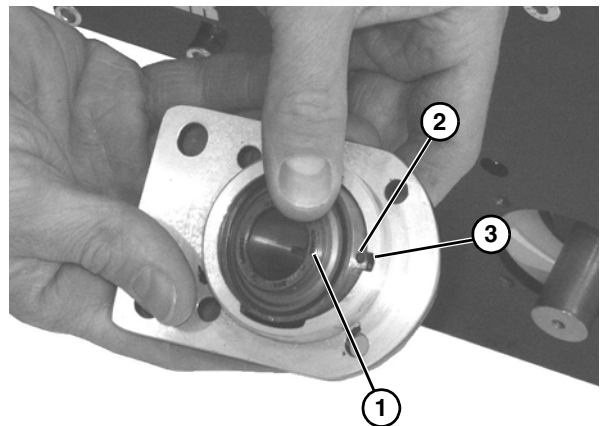

Figure 64
2. Insert bearing (**Figure 64, item 1**) into housing slot: Locate anti-rotation nub (**Figure 64, item 2**) to align with slot (**Figure 64, item 3**), and twist bearing into housing.